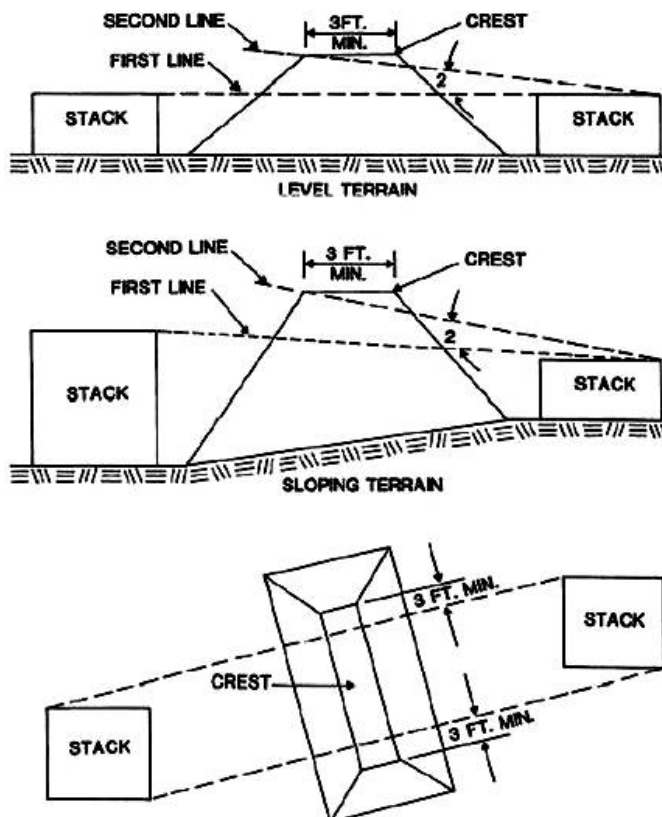

Figure 2-38. Typical earth-filled barricade.
- Earth, 20 feet or less in height, having a crest at least 3-feet wide. Don't make the slope more than 2 horizontal to 1 vertical to reduce erosion and ease maintenance. See figure 2-38 for typical earth-filled barricade designs.
- Earth more than 20 feet in height, and at least 5-feet wide at the top, with earth sloping as in example 1 of figure 2-38.
- Earth meeting the requirements of examples 1 or 2 of figure 2-38, and modified by substituting a retaining wall for the slope on one side. The slope and thickness of the retaining wall (preferably of concrete) must ensure a wide enough top so the earth is held firmly in place.